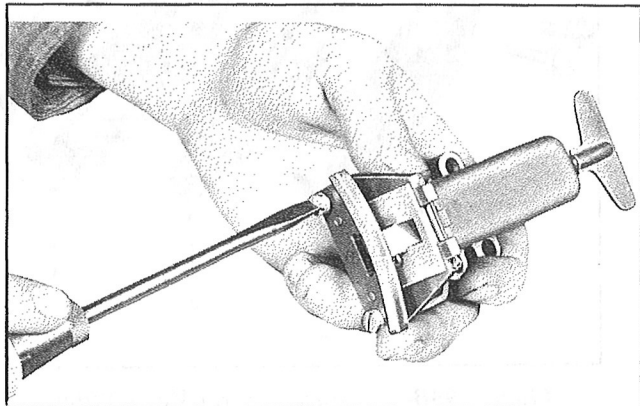

Figure 197—Removal of the Governor Ways Plate
*Step 2.*—Remove the safetywire and the 10 x 24 fillister head screws from the ways plate, as shown in Figure 197. Remove the ways plate, using caution to avoid bending the ways plate dowels. Remove the piston and lever arm.